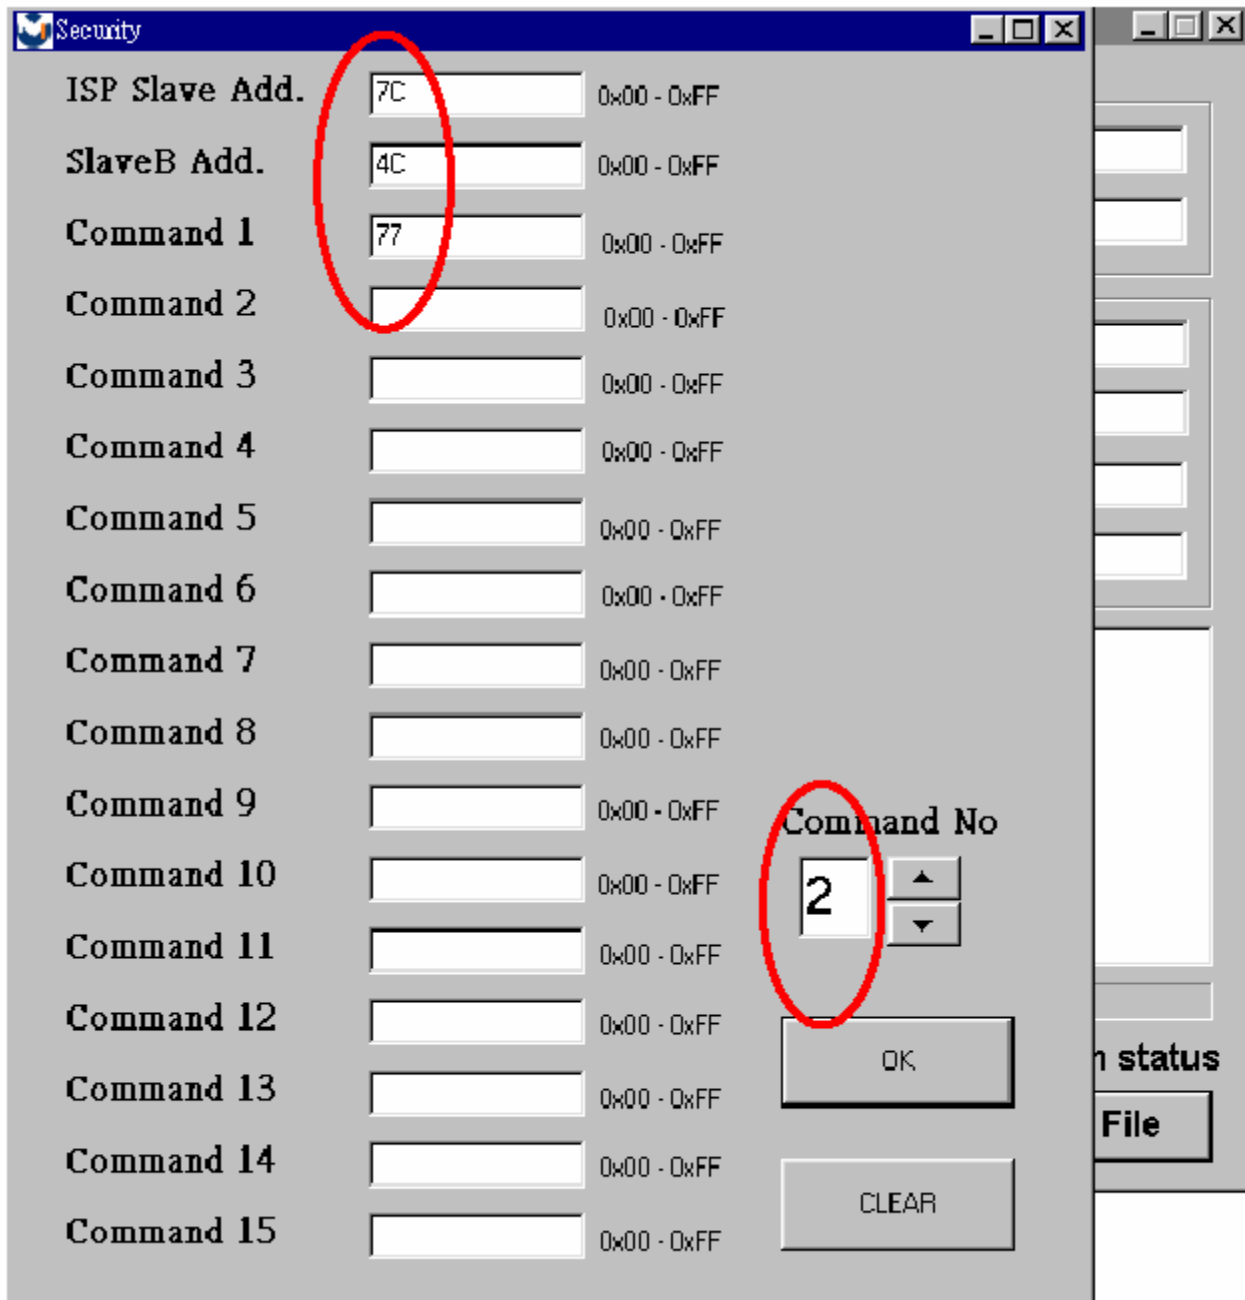

Fig 3.7
3.7 Fig 3.7 shows the setting for security code of **software ISP**, it needs **2** Command No, and key in command sequentially for **7C, 4C, 77**. The Command No and command must be set by user while coding. About the detail of setting, please refer to Section 6 Boot code of ISP.